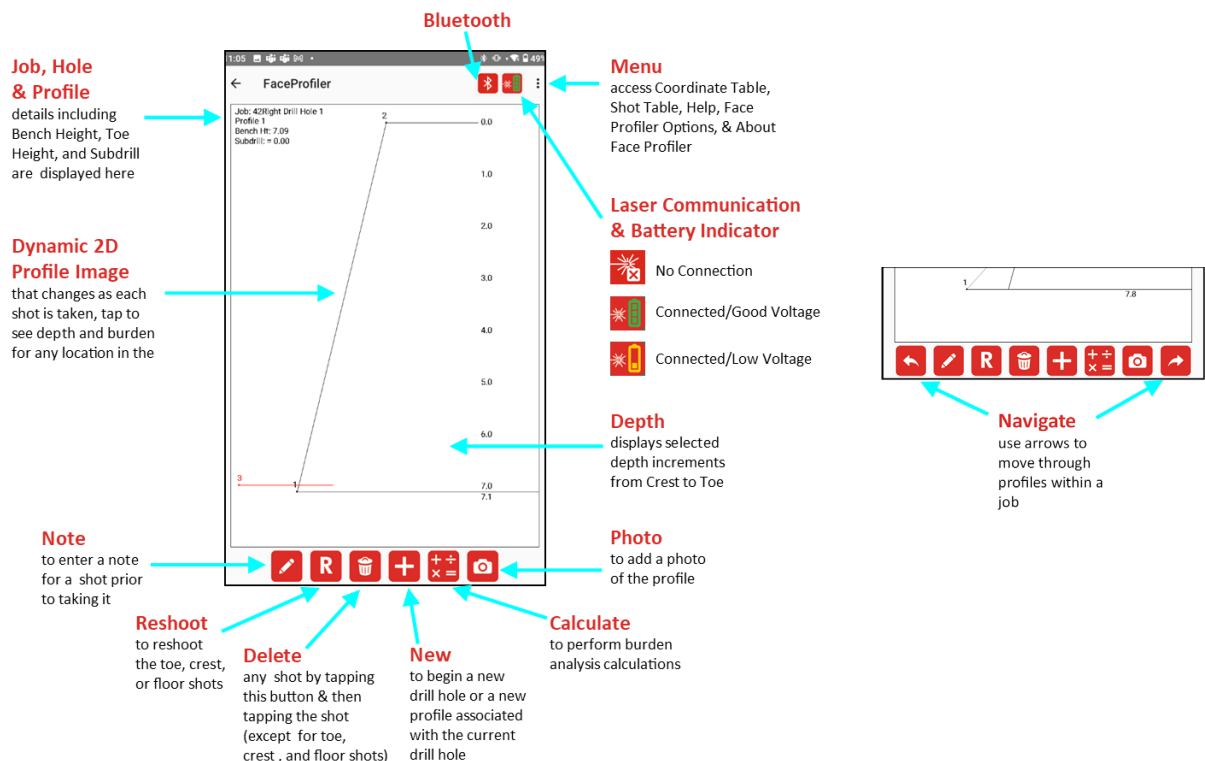

Figure 27
3. Press the laser's FIRE button. The Android device will beep when data arrives from the laser. The data will be stored; and the Shoot Profile screen will display (Figure 27, Page 22).
After the Floor Shot is taken or skipped, the Shoot Profile screen is displayed (Figure 27). This example shows the initial plot, with a straight line from the Toe to the Crest. Remember that the toe, crest and floor shots may be retaken at any point in time while that profile is open.